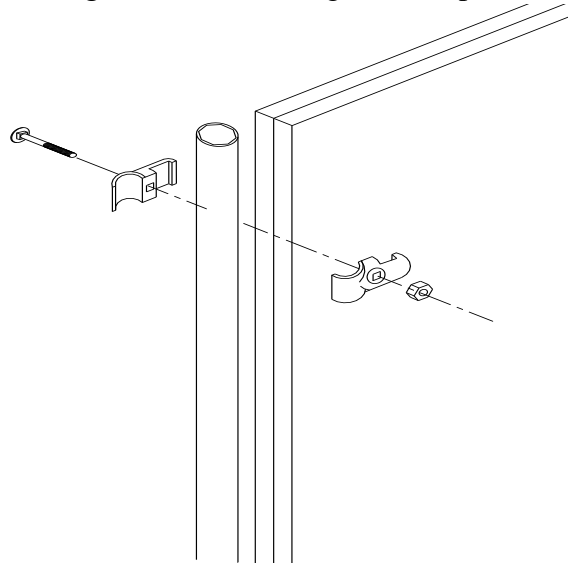

Figure 18.
1. Attach the filler pipes to the front end of each division panel with two square-round clamps (it takes two halves to make up one clamp) approximately 6" from either end of the filler pipe using the 5/16" x 1-3/4" galv. carriage bolts and 5/16" galv. nuts provided as shown in Figure 18.